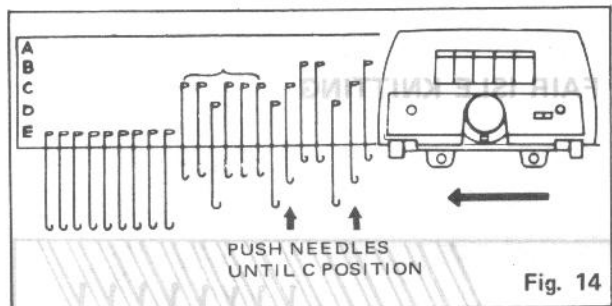

Fig. 14
4. After pushing the needles continuing to knit and the needles which have tucked stitches to C position, select the needles according to the relative knitting diagram and knit one row. (Fig. 14)